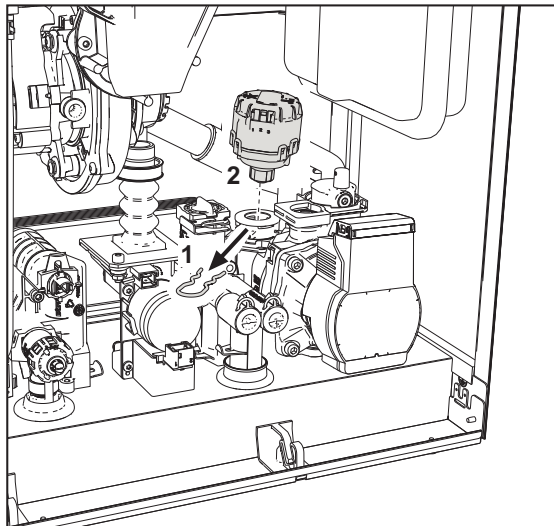

fig. 47
- Remove the diverter valve motor head (see fig. 47).